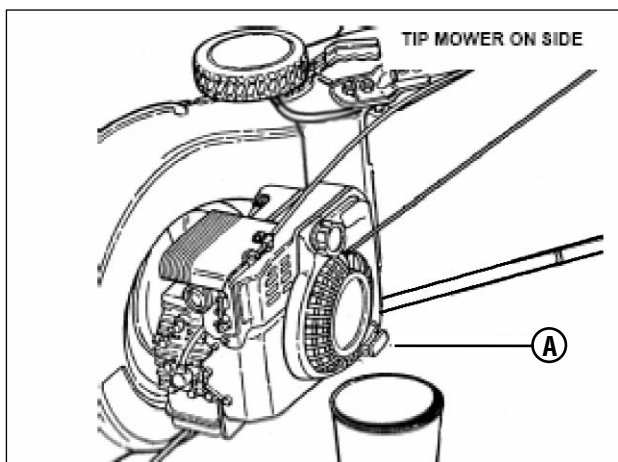

Figure 13: Draining the engine oil
2. For the simplest/cleanest oil change, simply turn the mower on its side to drain the oil, as shown. Drain the oil through the dipstick tube (A, Figure 13) into a container. Allow sufficient time for all the oil to drain.